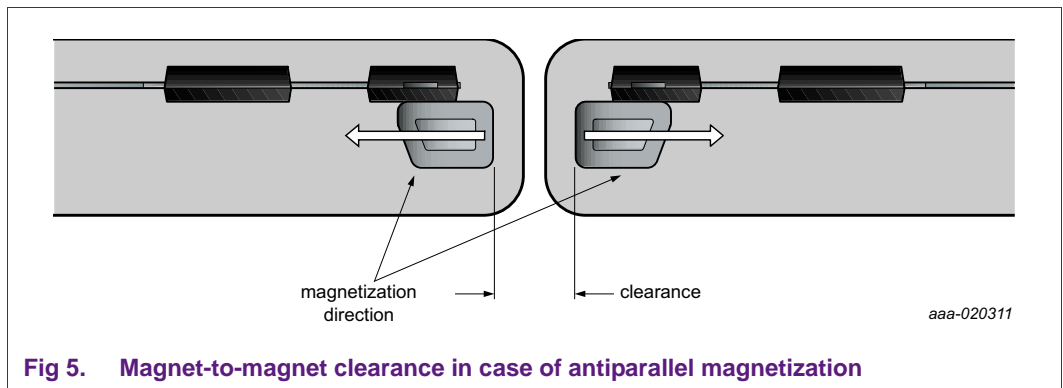

Fig 5. Magnet-to-magnet clearance in case of antiparallel magnetization
- Minimum clearance of 2 mm in case of antiparallel magnetization of the neighboring devices for magnetized encoders; see Figure 5